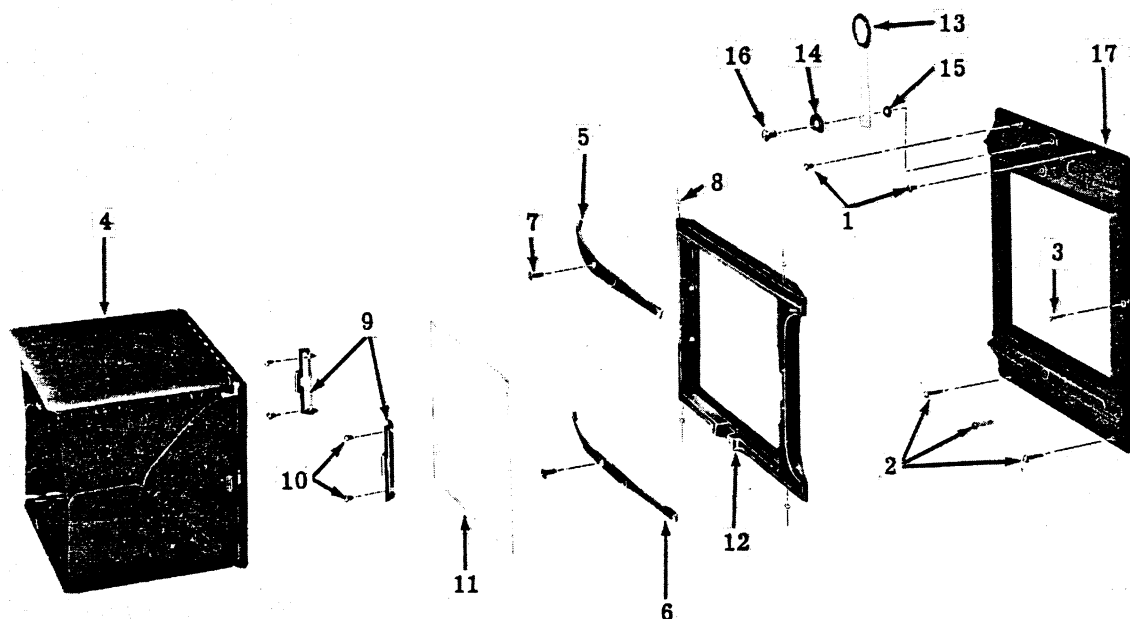
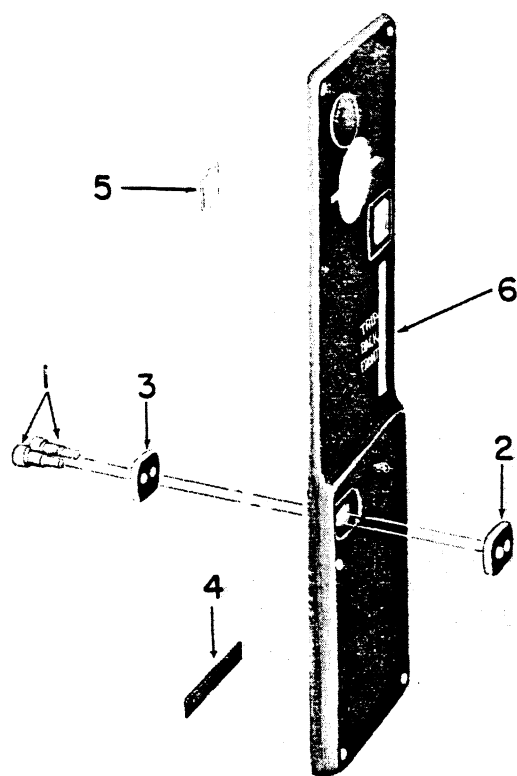

Figure 3. 4x5 Graphic Camera Back
Figure 5. Cover Shutter Plate
1. Loosen the top and bottom focusing frame spring assemblies (5 and 6, figure 3) that are secured by machine screw and washer (7).
2. Remove two short self-tapping screws at the top (1) and the long self-tapping screws (2) at the bottom and one wood screw (3) at the right side, if used.
3. Remove the hood assembly (4) by pressing outward on the tab of the hood retainer (9).
4. To remove the focusing screen (11), remove the two hood assembly retainers (9).
(b) To assemble the peepsight assembly (13, figure 3) position the peepsight washer (15) over the mounting hole on the outer surface, lay the peepsight assembly (13) in the slot provided, po-
3. Check focusing frame assembly (12, figure 3) and back (17), or check focusing frame assembly (8, figure 5) and back (28) on a machined surface plate. If these parts do not lie flat they must be straightened.